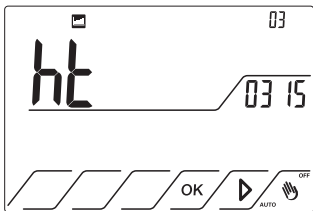

Fig.51
14.5 Press  to move on page 3. Fig.51